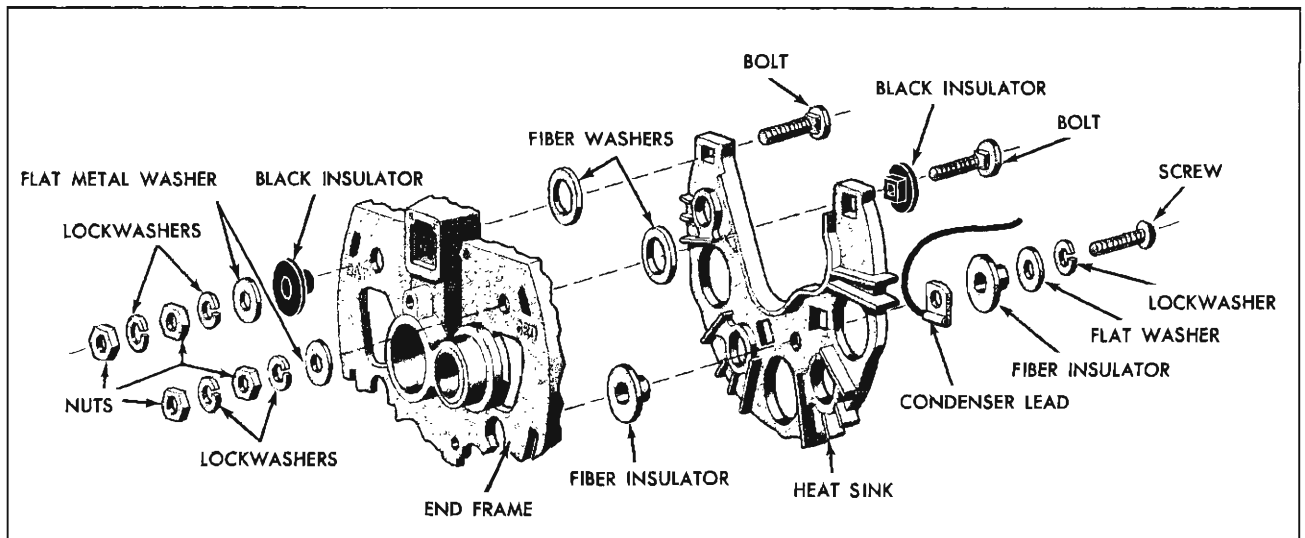

Fig. 31—Heat Sink, Showing Parts Location
1. Detach heat sink from end frame by removing the two terminal bolts. Note carefully the proper stack-up of parts so that the "BAT" and "GRD" terminal bolts can be reassembled in the same manner (fig. 31).